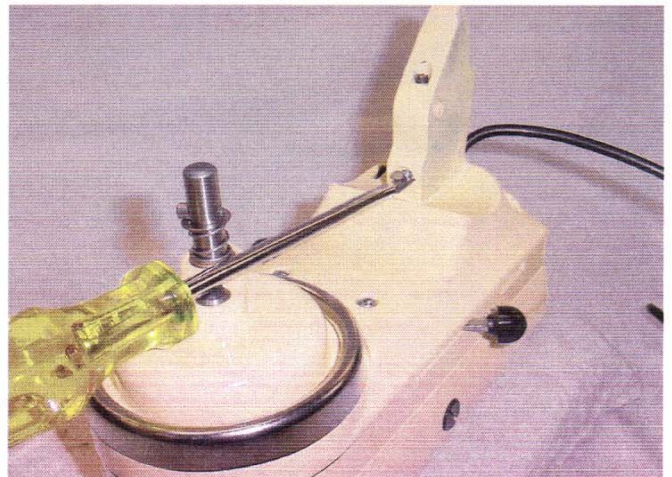

Fig. 69 The adjusting screw has a nylon insert and should not be loose in the threads.
W. Check the beater height adjusting screw (Fig. 69).